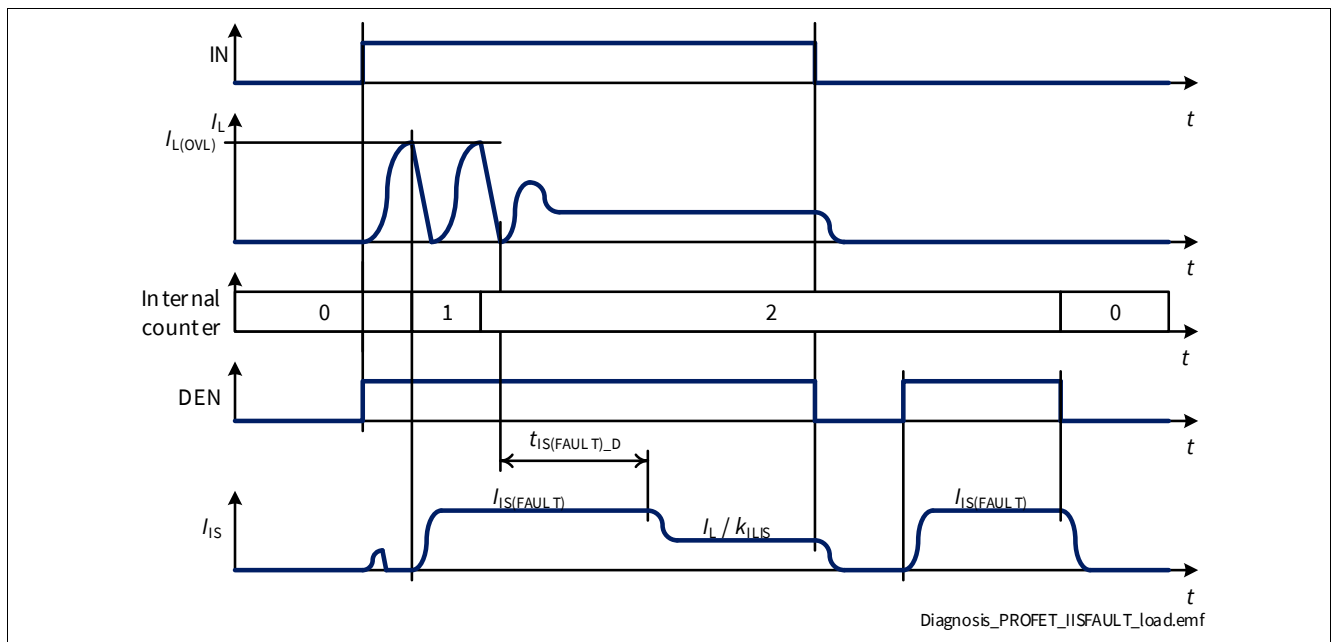

Figure 35 $I_{IS(FAULT)}$ at Load Switching
- If the channel is ON and the number of retries is lower than “ $n_{RETRY(CR)} + n_{RETRY(CYC)} * n_{RETRY(NT)}$ ”, the current $I_{IS(FAULT)}$ is provided for a time $t_{IS(FAULT)_D}$ after the channel is allowed to restart, after which $I_{IS} = I_L / k_{ILIS}$ (as shown in Figure 35). During a retry cycle (while timer t_{RETRY} is running) the current $I_{IS(FAULT)}$ is provided each time the channel diagnosis is checked
| SENSE Delay Time at Channel Switch ON after Last Fault Condition | $t_{IS(FAULT)_D}$ | – | 500 | – | μs | ¹⁾ See Figure 35 | P_9.6.1.3 |